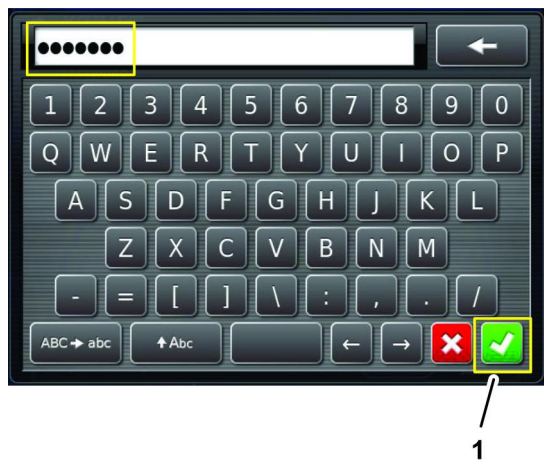

Figure 125
6. Use the on-screen keyboard to enter the password that you received in step 1, and press the confirm icon (Figure 125).